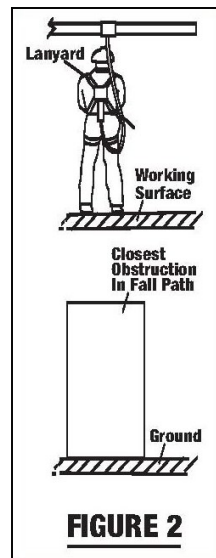

FIGURE 2
9.5'. It is important to remember that Total Fall Distance is not always measured from the working surface to the ground, because sometimes the ground is not the closest object beneath the working platform. If there is any type of obstruction in the fall path of the worker (see **Figure 2**), your available clearance is measured from the working platform to the top of that obstruction. Sometimes these distances can be very short, and a fall protection means other than a 6' shock-absorbing lanyard is necessary.